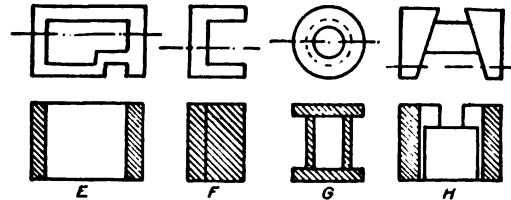

Fig. 78.
7. Which sections are correct? E, F, G, H. (Fig. 78). Where wrong? Why wrong?